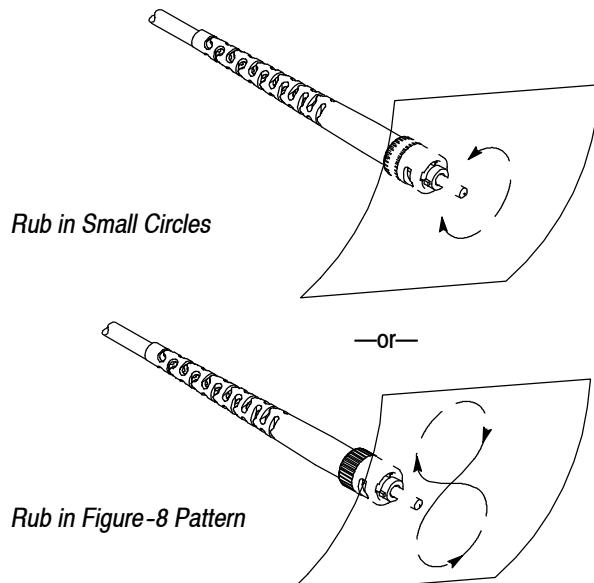

Figure 16
- While holding the polishing film in the air, form a concave shape and air polish the connector tip by gently rubbing the tip of the connector in small circles or figure-8 patterns until the protruding stub of the cleaved fiber is flush with the ferrule surface. Refer to Figure 16.